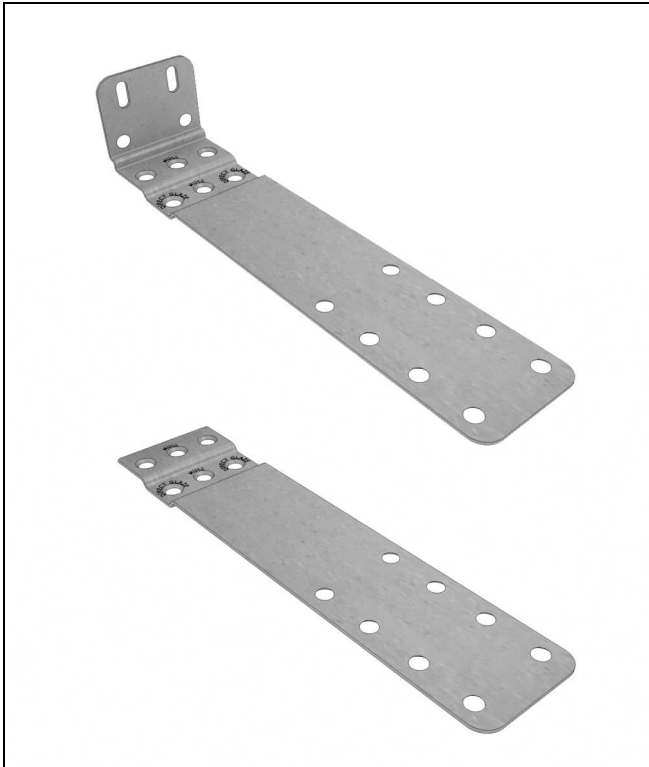

Figure 11
9. On masonry openings you will need to modify the bracket. Remove the front leg of the bracket by cutting with a metal cutter or similar tool. See Figure 11.